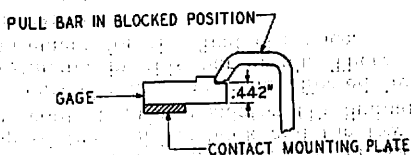

Fig. 24
- (a) The toes of the pull-bar hooks should be close as possible to .442" above the contact-mounting plate. Fig. 24